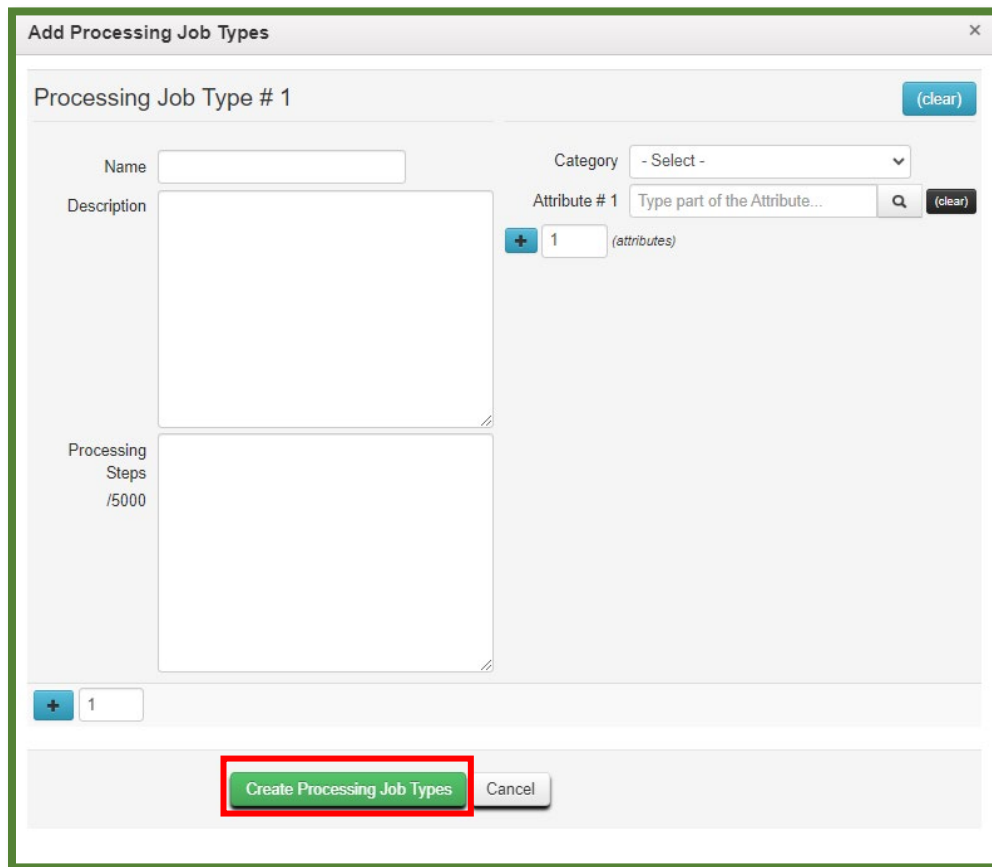

Figure 3: Add Processing Job Types action window
This will open the Add Processing Job Types action window (**See Figure 3**). Complete the form fields:
- Attribute #1 – Enter one or more Attributes that pertain to the Processing Job Type by typing in the attribute field or by selecting the magnifying glass icon and choosing the appropriate option from the group of attributes. To add additional attributes, select the blue plus icon button – **see Figure 3**.